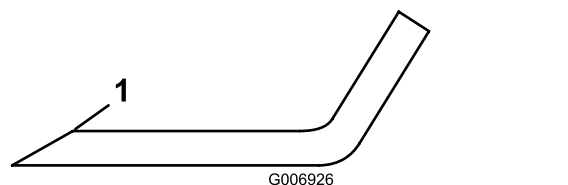

Figure 75
4. Inspect the cutting edges of all the blades. Sharpen the cutting edges if they are dull or nicked, sharpen only the top of the cutting edge, and maintain the original cutting angle to ensure sharpness (Figure 75).